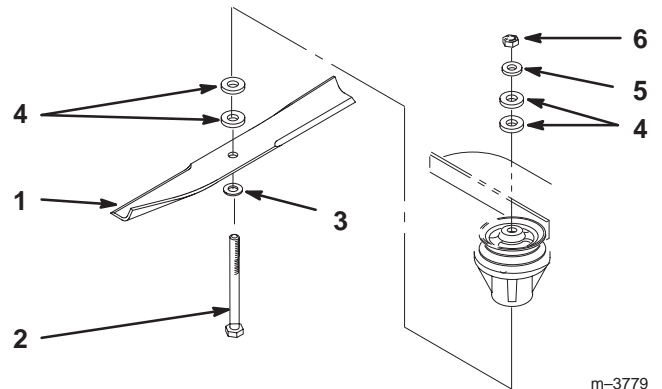

Figure 18
- Hold the blade bolt and remove the nut (Fig. 18).
- Slide the bolt down through the spindle, and change the spacers as needed (Fig. 18).
- Insert a bolt, add extra spacer(s), and secure them with a thin washer and a nut (Fig. 18).